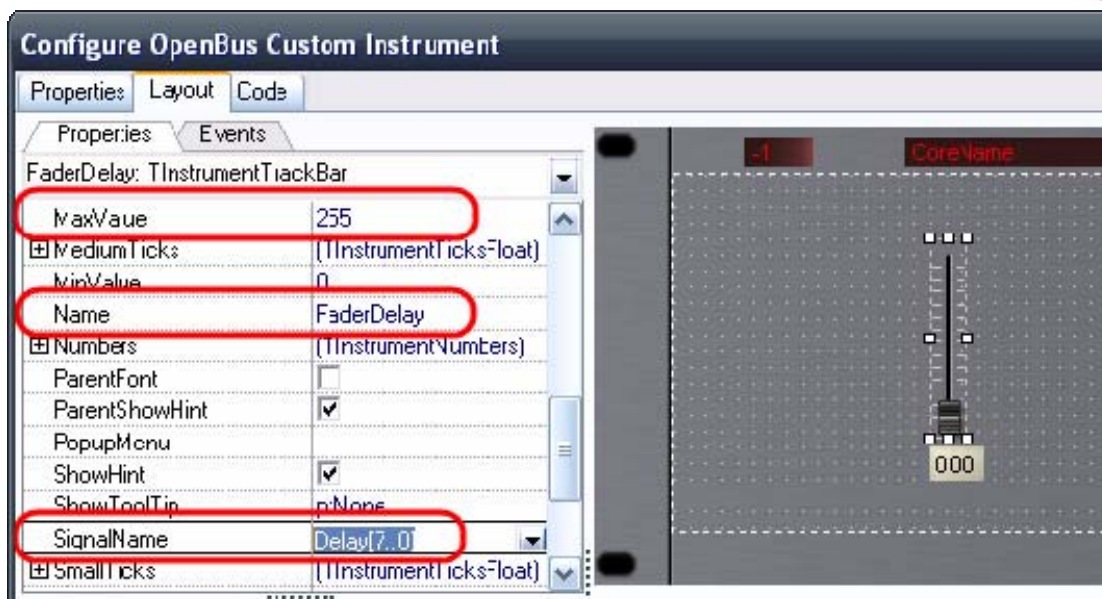

Figure 3. Place a TrackBar, and configure the MaxValue and the Name.
9. Switch to the **Layout** tab to display the design of the custom instrument. Click once in the main area of the instrument face, then using the small resize handle that appears decrease the height of the instrument so that it occupies about half the height area available in the dialog, as shown in Figure 3.
11. While the TrackBar is selected, edit the **MaxValue** to be 255, the **Name** to be `FaderDelay`, and the **SignalName** to be `Delay[7..0]` as shown in Figure 3.